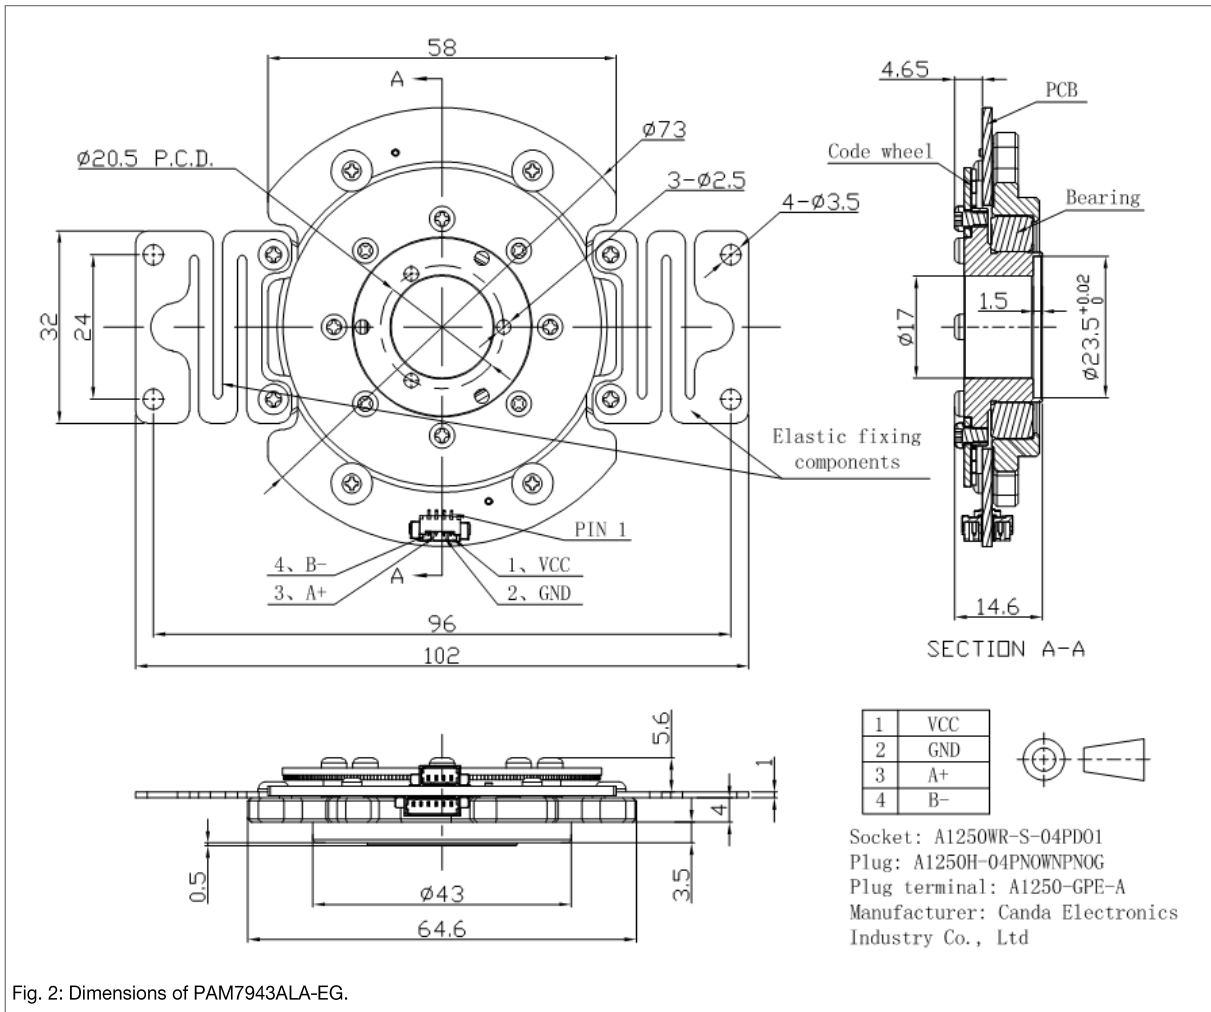

Fig. 2: Dimensions of PAM7943ALA-EG.
1) more details in Fig. 2, Fig. 4, Fig. 6, Fig. 8